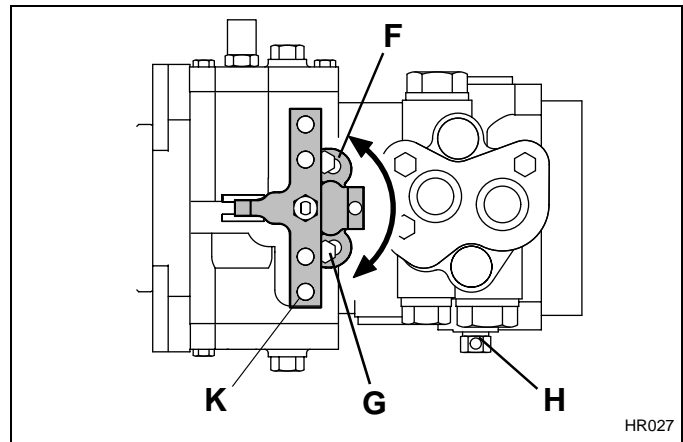

Figure 4H
1. Make sure return arm (**K-Figure 4H**) on pump is adjusted to neutral, Section 4.7.